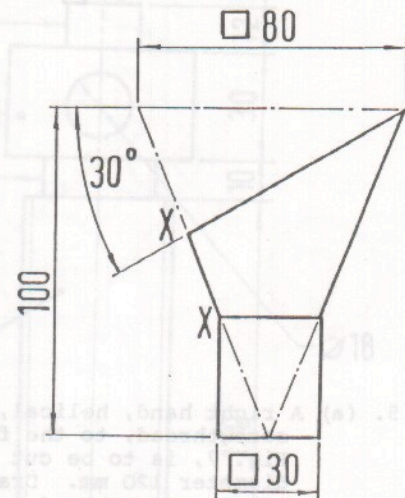

FIG.2 FIG. 2
2. Fig. 2 shows the elevation of a hopper to a square section feed tube.